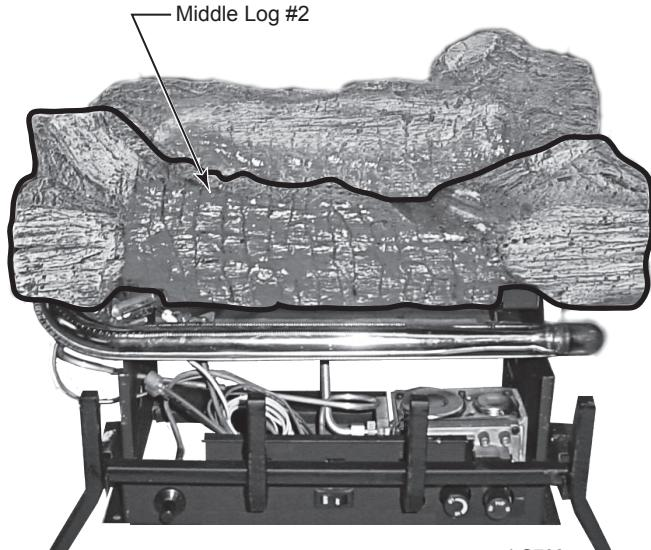

Figure 20 -
2. Place Middle Log (#2) on middle support. *Figure 20*